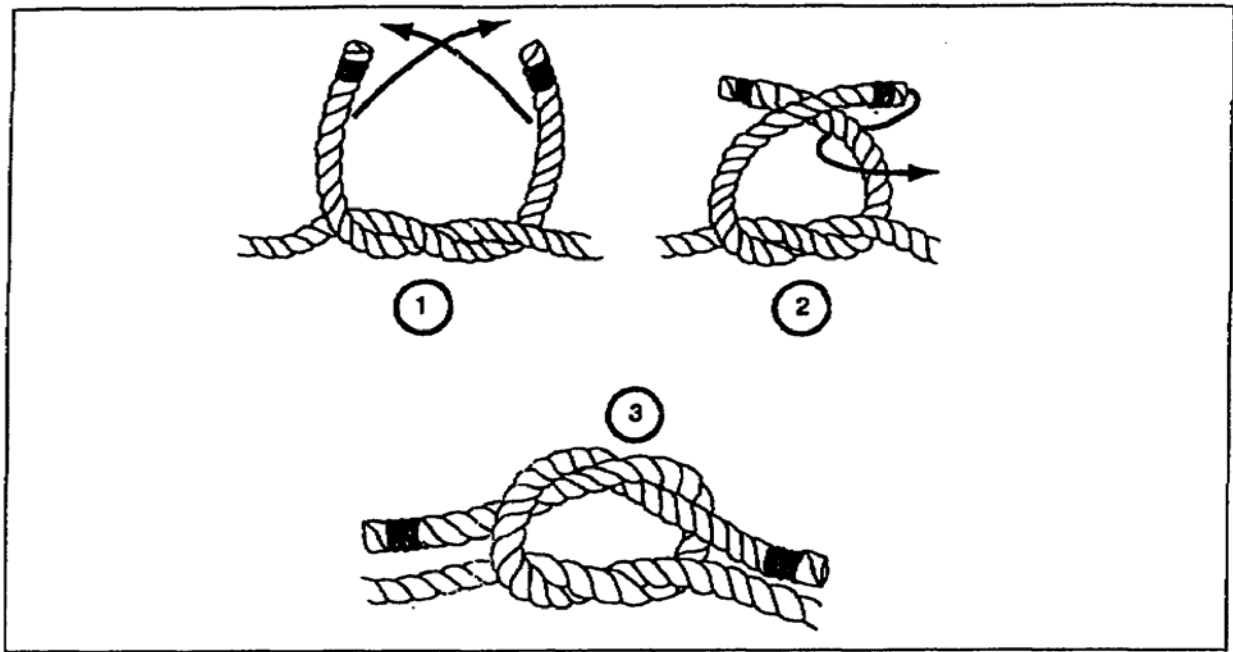

Figure 4-22. Square knot
a. **Square Knot.** A square knot (Figure 4-22, page 4-18) is used to tie two ropes of equal size together so they will not slip and are easily untied. Note that the square knot, the running end and standing part of one rope come out on the same side of the bight that is formed by the other rope. The square knot will not hold if the ropes are set or if they are of different sizes. It tightens under strain but can be untied by grasping the ends of the two bights and pulling the knots apart.